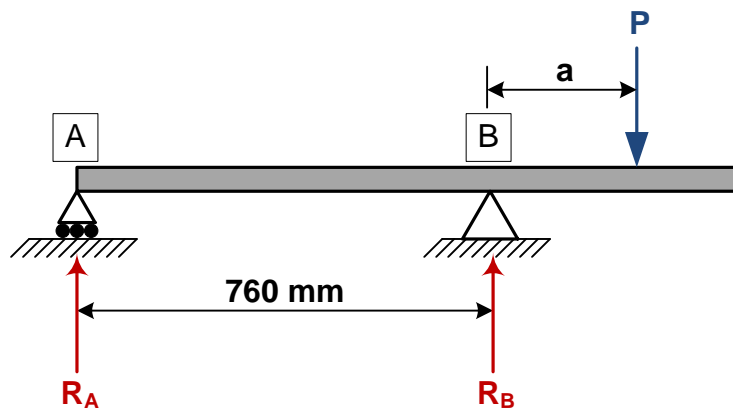

Figure 5: Load condition case 3
4. Try the case in which the beam has an overhang outside one support, and on which a load $P = 2.35$ lb is applied at a distance $a = 6$ in, as shown in Fig. 5. Record readings in Table 3.
Table 3: Readings from load condition case 3 (Fig. 5)